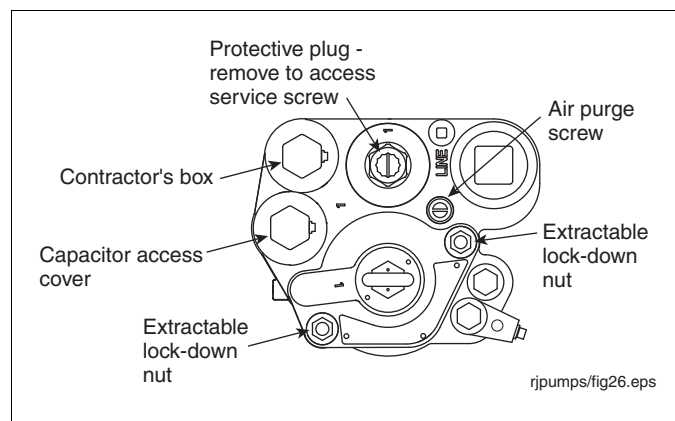

Figure 45. Extractable Lock-Down Nuts
2. Remove the two extractable lock-down nuts (see Figure 45). The springs on the lock-down studs between the extractable's flange and the manifold will push it up, breaking the seals.
20. Turn the air purge screw 2 - 3 turns counterclockwise (see Figure 45).